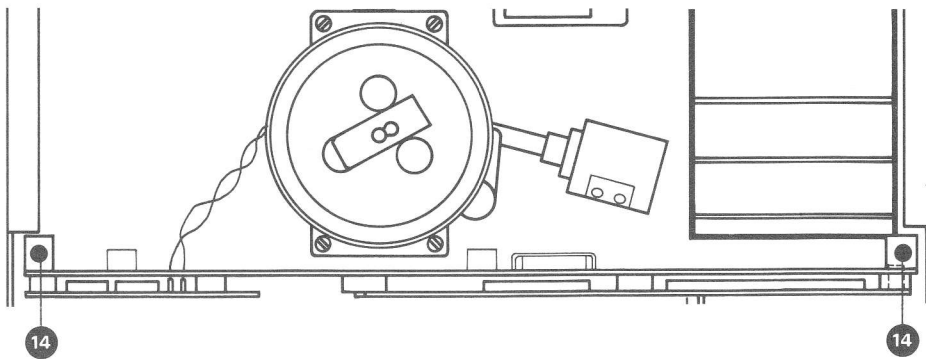

Fig. 3.4.-1
- 2 Schrauben ⑭ (Fig. 3.4. - 1) lösen.
- Remove 2 Phillips head screws ⑭ (fig. 3.4. - 1).
- Unplug tachometer head from the capstan speed control board ⑮.
- Oter les 2 vis ⑭ (Fig. 3.4. - 1).